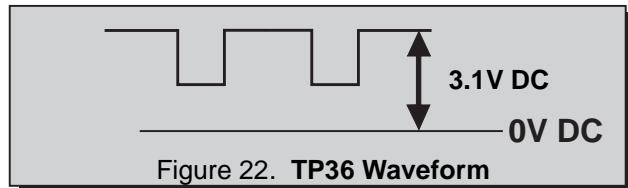

Figure 22. TP36 Waveform
4. Observe the oscilloscope waveform at Horizontal rate and adjust the Service Mode Sub-Bright DAC (B2) level until a scanning period of **3.1V** above DC ground is measured, as indicated in Fig. 22.